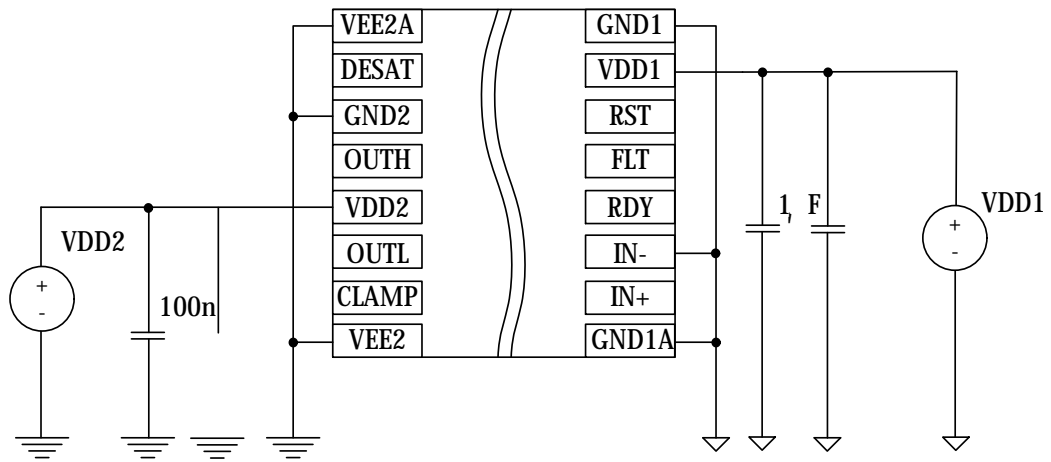

Figure 25. Unipolar Power Supply
- └ In Unipolar power supply the driver is typically supplied with a positive voltage of 15 V at VDD2. Dynamic turn on throughout the internal IGBT input capacitance could be prevented by Active Miler Clamp function. CLAMP output should be directly connected to IGBT gate (Figure 25).